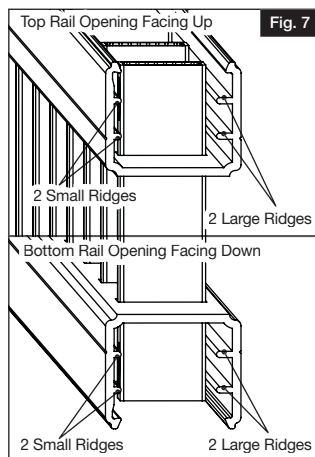

Fig. 7
- Once proper fit is ensured, mark the bracket positions at all four (4) locations (Fig. 7) and remove brackets from the rail panel.
- Place the stair bracket base on the post aligned with the marks made in step 5 (Fig. 7) ensuring that brackets are properly oriented.
- a. Place top and bottom rail on a smooth, flat and clean surface. Then, align the top and bottom rails so that the ridges inside the rails are oriented on the same side (Fig. 7).
- b. Insert all balusters through the square holes in rails, making sure the hole in each baluster goes in the same direction facing the side with the two (2) small ridges (Fig. 7).